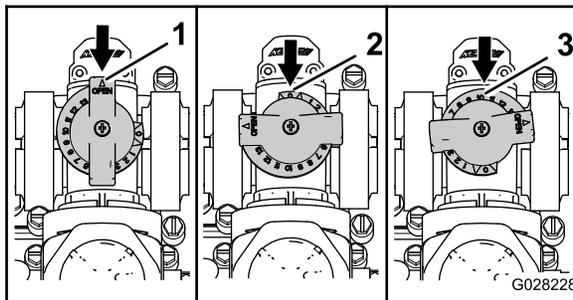

Figure 30
- The agitation-bypass valve is in the full Open position as shown in A of Figure 30.
- The agitation-bypass valve is in the Close (0) position as shown in B of Figure 30.
- The agitation-bypass valve is in an intermediate (adjusted relative to the pressure gauge for the sprayer system) position as shown in C of Figure 30.